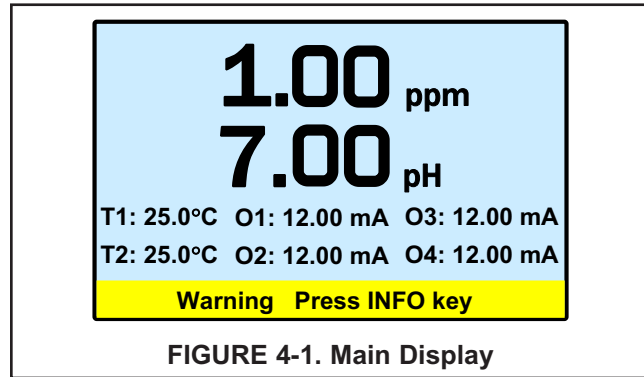

FIGURE 4-1. Main Display
The analyzer has a four line display. See Figure 4-1. The display can be customized to meet user requirements. See Section 4.5. Fault or warning messages, if appropriate, appear at the bottom of the screen. See Section 11.1.
1. With the main display showing (Figure 4-1), press the ENTER/MENU key. The main menu, shown at left, will appear. **Pressing the ENTER/MENU key will bring up the main menu only if the main display is showing.**